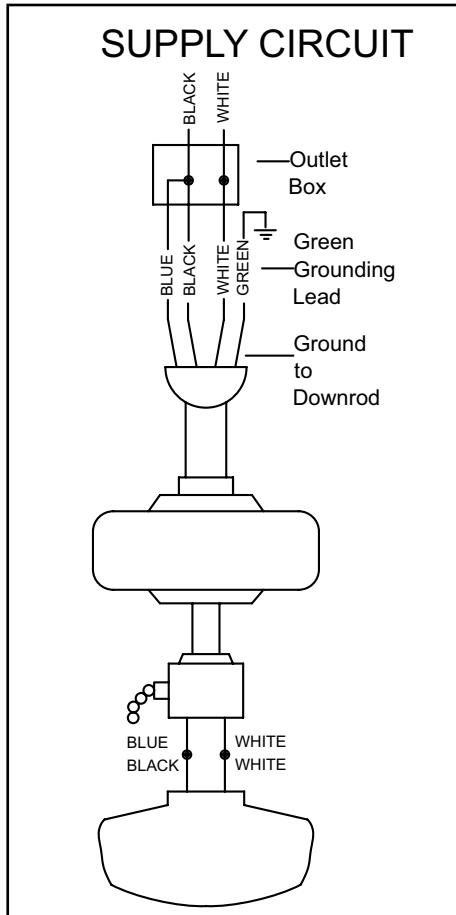

Figure 12
- Connect the ground conductor of the 120v supply (this may be a bare wire or a wire with green insulation) to the green ground lead(s) of the fan (Figure 12). When using standard ceiling mounting, there are two green grounding leads; one from the ceiling mounting plate and one from the ball/downrod assembly. When using Close-to-Ceiling mounting, there is only one green ground lead from the mounting plate since the ball/downrod assembly is not used.
- Connect the fan motor white wire to the supply white (neutral) wire using a wire nut (Figure 12).
- Connect the fan motor black wire to the supply black (hot) wire using a wire nut (Figure 12).
2. Connect the wires for the light kit exiting the bottom of the motor with the wires from the light kit. See Figure 12.